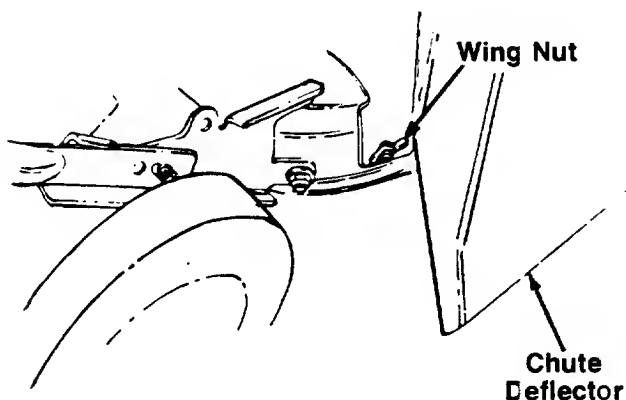

FIGURE 18.
3. Secure the front of the chute deflector to the bolt on the side of the deck with one wing nut. See figure 18. Secure the back of the chute deflector in the same manner. See figure 18.